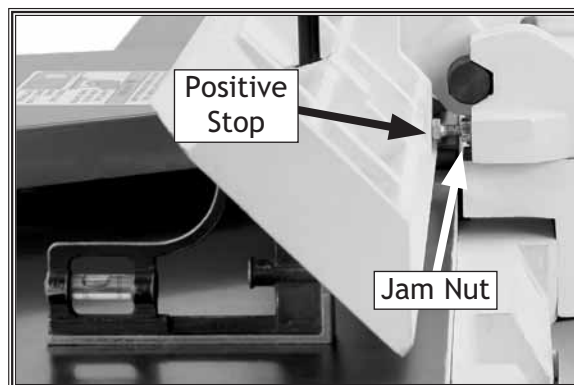

Figure 56. Fence adjusted 45° inward.
1. Tilt the fence approximately 45° inward (**Figure 56**) onto the positive stop bolts, using a 45° square as a gauge.
2. Loosen the jam nut on the 45° inward positive stop bolt shown in **Figure 56**.